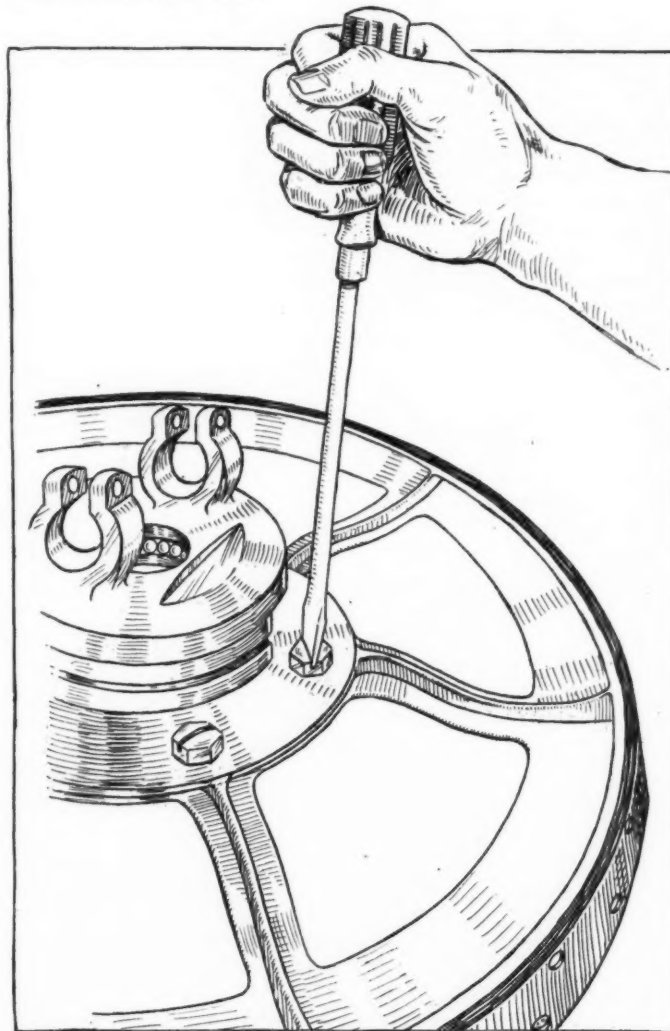

Fig. 5—Removing screw to get at the spring of the clutch used on E-M-F
During summer the exhaust fans are started 12 hours before sunrise, supplying fully as much fresh air as is necessary. This process also serves to cool the walls and posts thoroughly before work is started and keeps them so for some time. When the weather becomes so hot that a mere change of air does not cool the interior of the shops, the air, before passing through the louvers at the ends of the buildings, is forced through a cooling apparatus, Fig. 5. This installation consists of a series of spray nozzles keeping the chamber in which they are inclosed full of a cold mist which lowers the temperature of the air passed through it.
(5) The last possibility is that the clutch spring is broken. This is extremely unlikely, for you would have found it out before now. Should this be the case, however, the cure is to renew the spring. The new spring will cost very little and it is easily put in place. The bolts shown in Fig. 5 will have to be removed to get at the spring. In replacing these bolts tighten them alternately. That is, take up a turn on every other bolt going around the flange so that the strain falls equally on all of them.